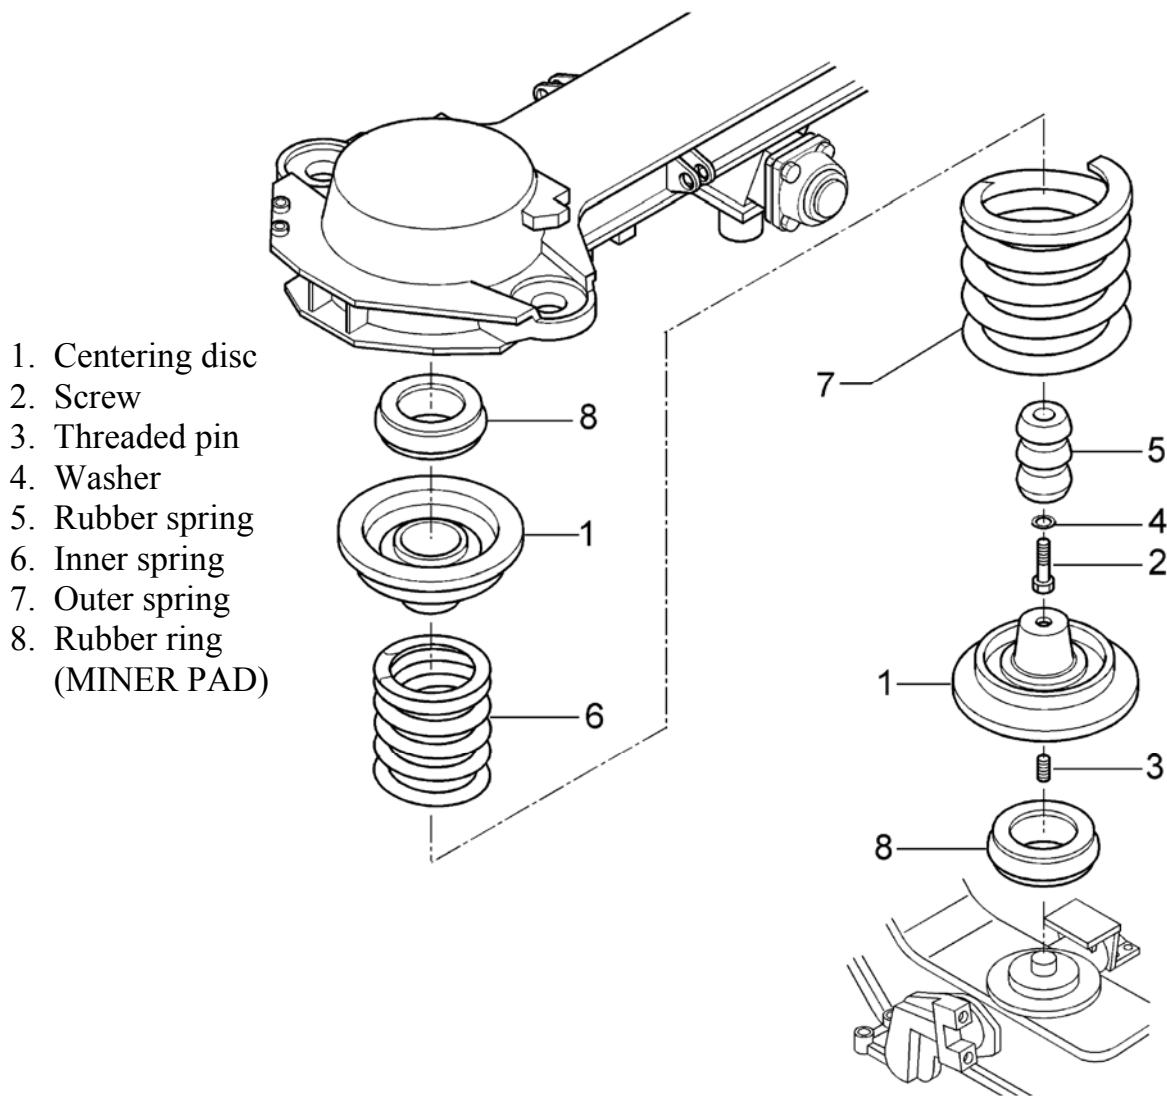

FIG. 4.27 SPRINGS PACK DISMOUNTING
The spring packs (FIG. 4.27) of the secondary suspension can then be dismantled in the following manner: remove the upper rubber ring (8). Remove the upper centering disc (1) together with the rubber spring (5), the washer (4) and the screw (2). Extracting the screw (2) it is possible to separate items (1), (2) and (5). Then it is possible to remove the inner spring (6), the outer spring (7). Extract the threaded pin (3) in order to remove the lower centering disc (1) and the lower rubber ring (8). Then put the bolster beam on two supports.